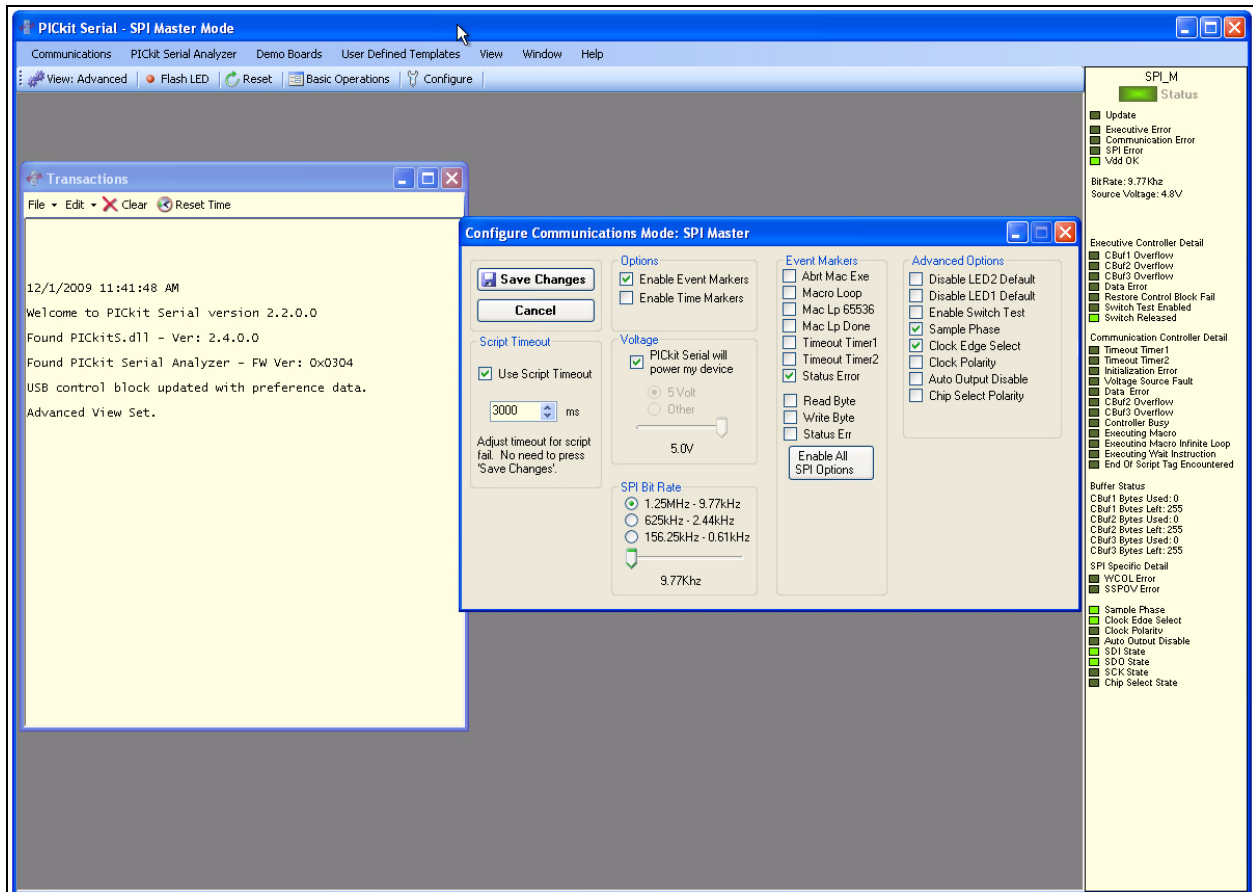

FIGURE 2-7: PICkit™ Serial Configure Communications Mode Window.
Figure 2-7 shows the Configure Communications Mode window. Ensure that your window options and settings are the same as this window, and then select the **Save Changes** button. The Configure Communications Mode window may now be closed.
6. Ensure that the Master SPI configuration is appropriately configured (see Figure 2-7).